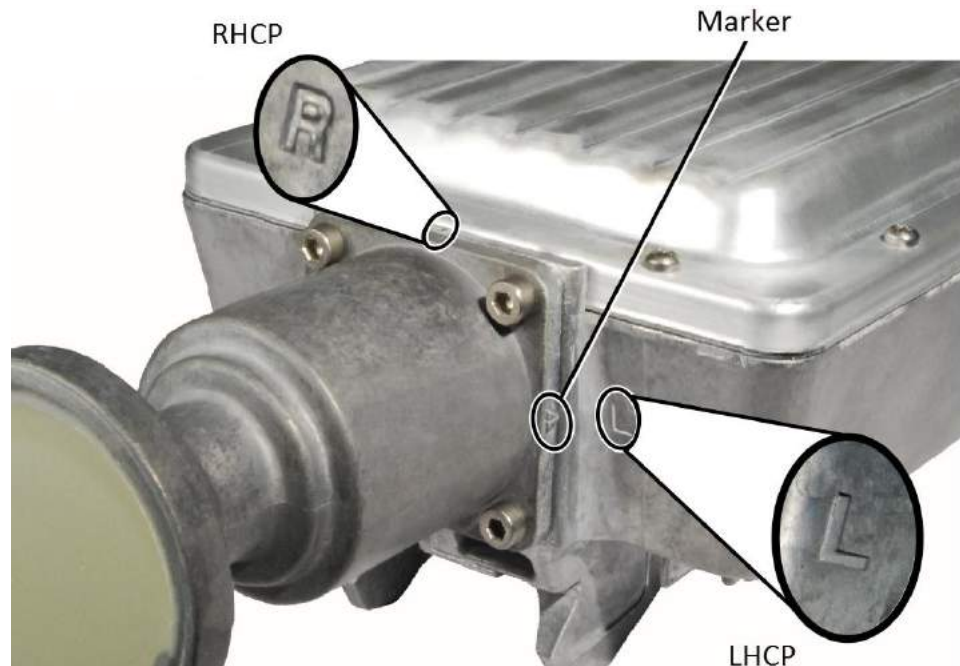

Figure 19: Determining the polarization setting of the radio
2. Refer to Figure 19 on page 37 and check the position of the polarizer on the radio.
- If the marker aligns with **R**, the polarizer is set for RHCP. For example, the radio shown in Figure 19 is set for LHCP, with the feed horn marker pointing to the L.